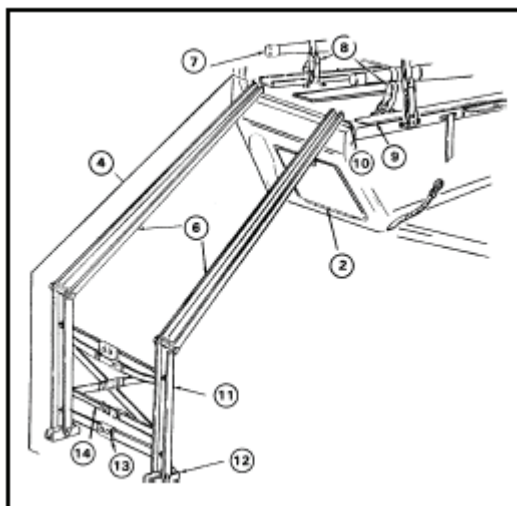

Figure 3-44. Assemble litter rail
- (d) Lock support braces (13) and adjust straps (14) as necessary.
- (2) Load litters on litter rack. Refer to Figure 3-44.